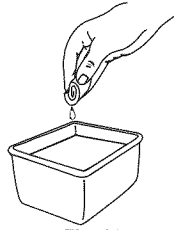

Fig. 26
- Wash the filter in detergent and water (Fig. 26). Rinse the filter thoroughly and allow it to dry.